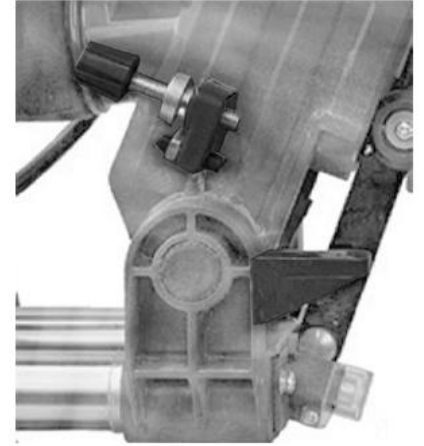

Fig. 8
6. Adjust the depth of the cut (Fig. 8).